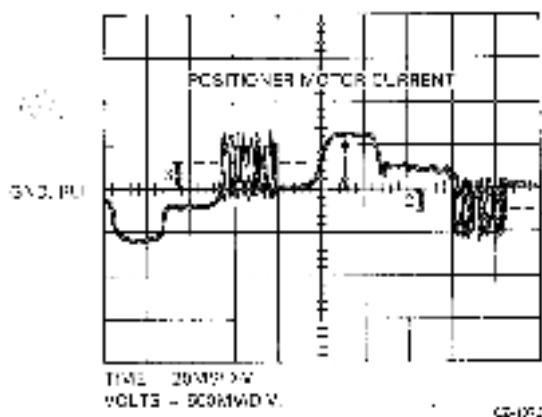

Figure 9-11 Positioner Motor Current Check
9. Observe the waveform shown in Figure 9-11.